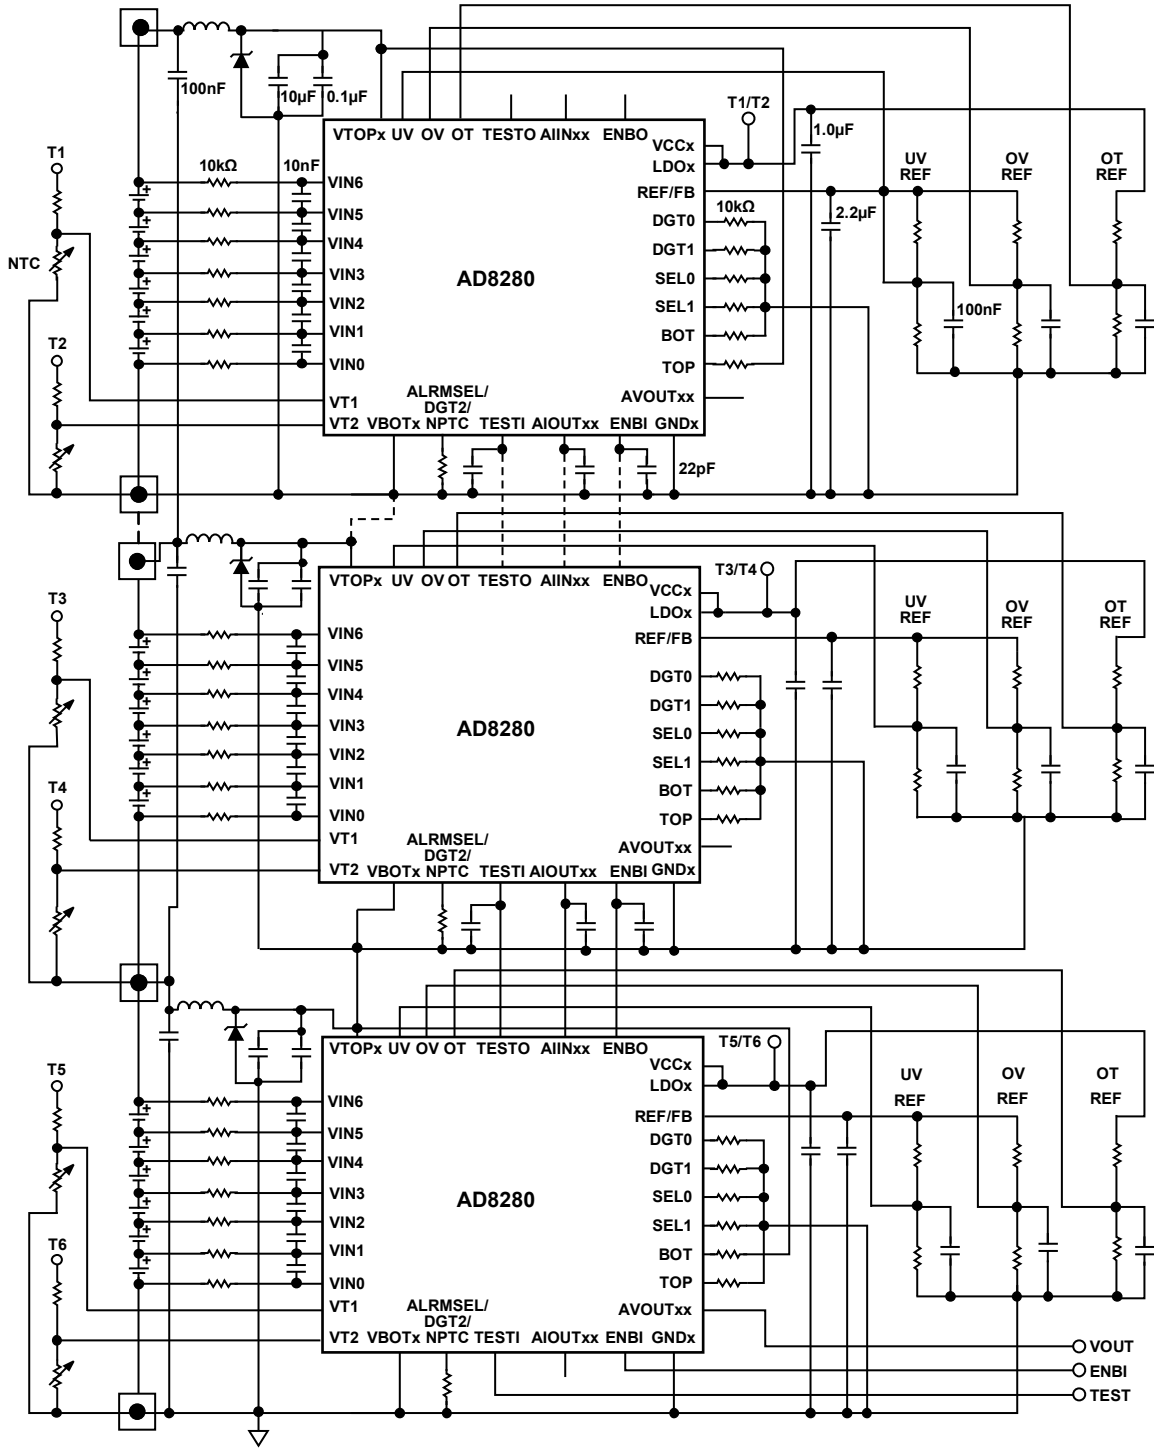

Figure 50. Typical Daisy-Chain Connections
Figure 50 shows the typical connections for configuring the part in a daisy chain.
To increase immunity to electromagnetic interference (EMI), use the following components and layout schemes (see Figure 50).
- Use ferrite beads on the VTOP lines as shown in Figure 50.